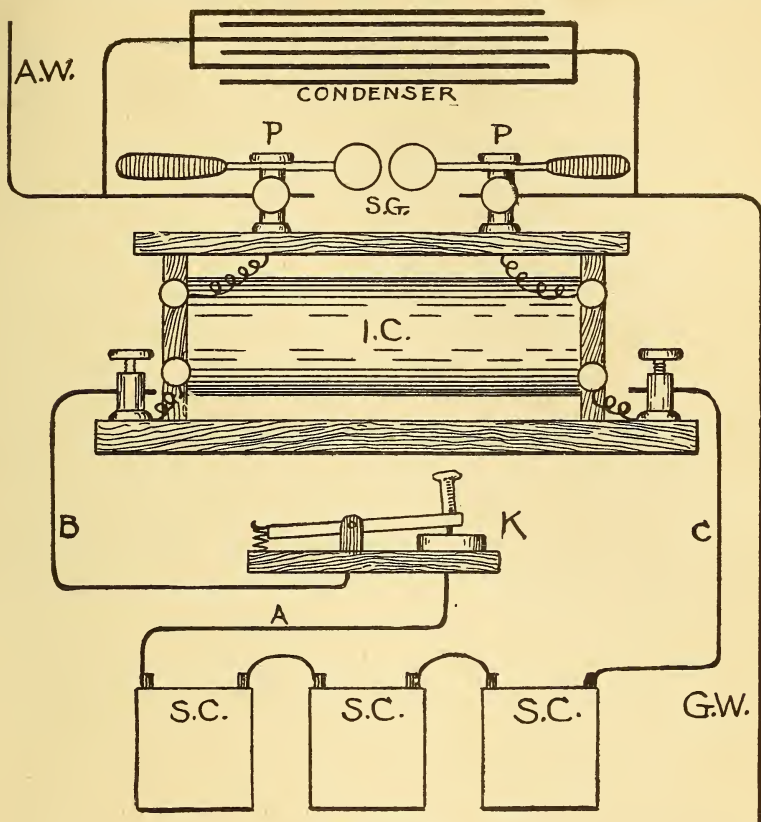

FIG. 35
ly communication is broken off, the switch (D C S) should be opened; otherwise the buzzer would keep up a continuous tapping. For long-distance work a more efficient sending apparatus is shown in Fig. 35. This is composed of an induction-coil, with the terminal rods and brass balls forming the spark-gap, an oil key (K), and three or more large storage-cells, or a dynamo (if power can be had to run it). A condenser is placed in connection with the aerial and ground wires, so that added intensity or higher voltage is given the spark as it leaps across the gap. In operation this apparatus is similar to the one already described. Where contact is made with K the primary coil is charged, and by induction the current affects the secondary coil, the current or high voltage from which is stored in the condenser. When a sufficient quantity is accumulated the spark leaps across S G and affects wires A W and G W. This action is almost instantaneous, and directly the impulse sets the ether in motion the same impulse is recorded on the distant coherers and sounders.